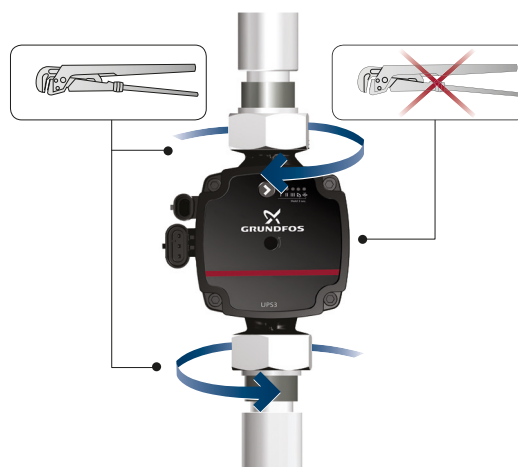

Fig. 3 Tightening the fittings
3. Tighten the fittings. See fig. 3.